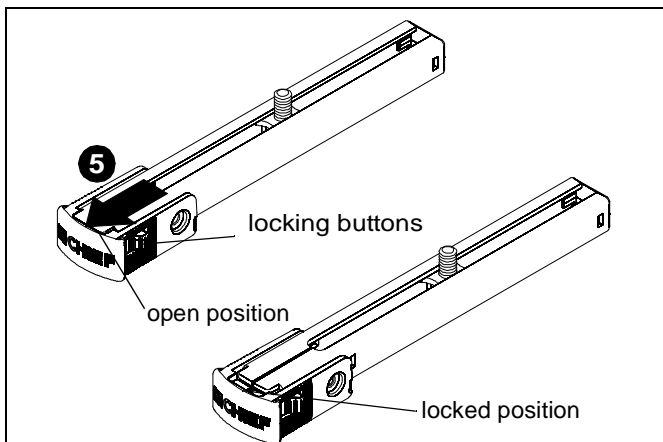

Figure 5
- Press locking buttons on SSBU/SSMU leg (C) firmly and simultaneously push clip cover away from enclosed sliding stud mount bracket until clip cover is in the locked position. (See Figure 5)